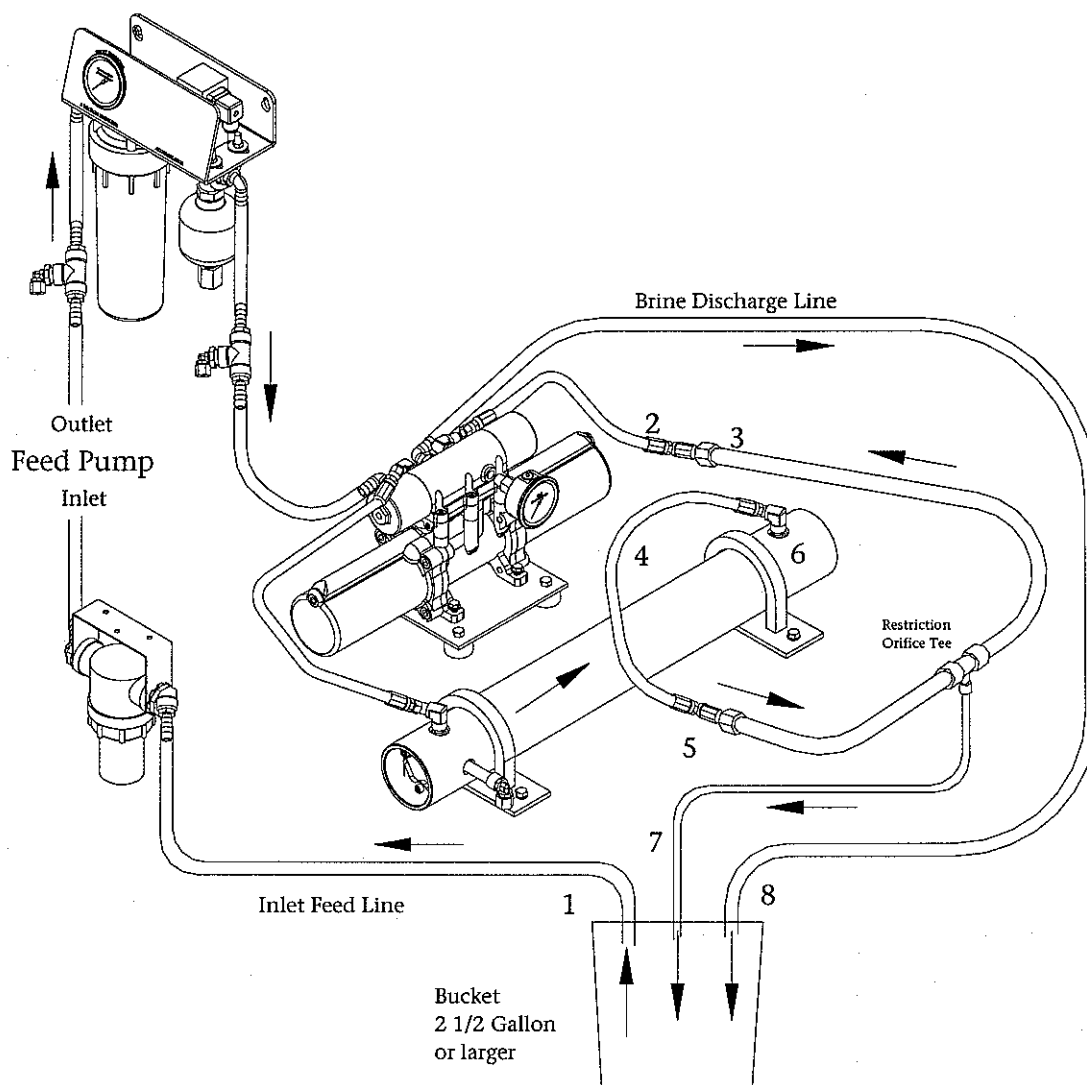

Figure 4.5.1 Closed Loop Configuration
B. SETUP (REFER TO FIGURE 4.5.1)
- b. The maximum ratio for the Storage Chemical (SC) is one bottle per 40 gallons of product water.
B. SETUP (REFER TO FIGURE 4.5.1 Closed Loop Configuration)